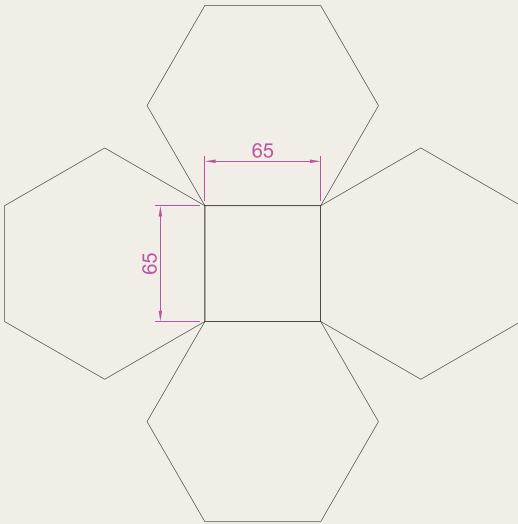

Fig. 3.50 Exercise 6
6. Figure 3.50 shows a rectangle in the form of a square with hexagons along each edge. Using the **Dimensions** prompt of the **Rectangle** tool construct the square. Then, using the **Edge** prompt of the **Polygon** tool, add the four hexagons. Use the **Object Snap endpoint** to ensure the polygons are in their exact positions.